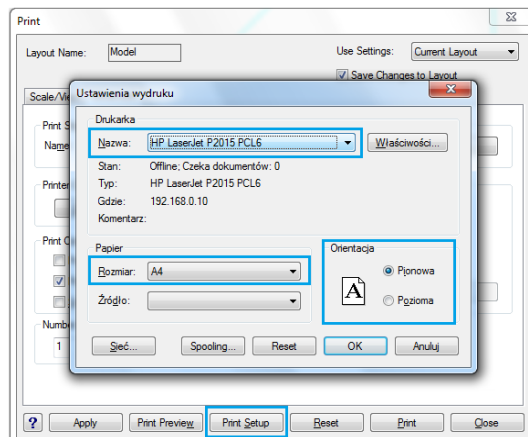

Fig. 320 – printout settings
- then click the **Print Setup** button and select the printer, size of the page (e.g. A4, A3) and orientation - vertical or horizontal (Fig. 320) – and then click **Print**.